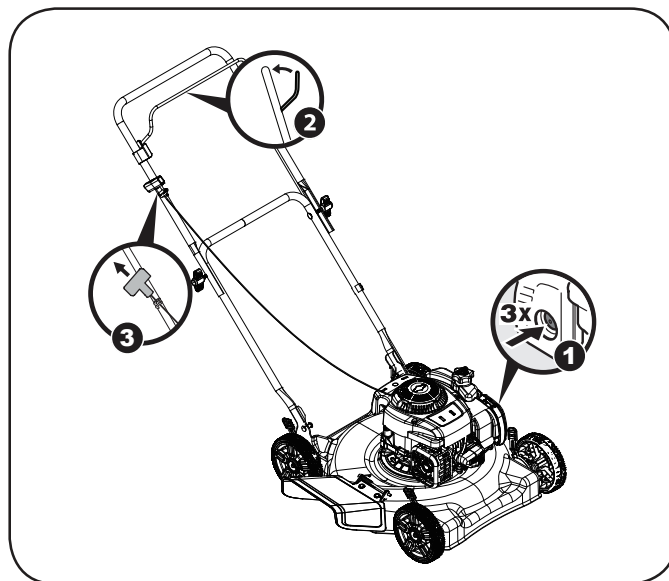

Figure 9
3. While holding the blade control against the upper handle, keep a firm grip on the starter handle and pull rope out with a rapid, continuous, full arm stroke. Repeat until engine starts. Let the rope rewind each time slowly (Figure 9).